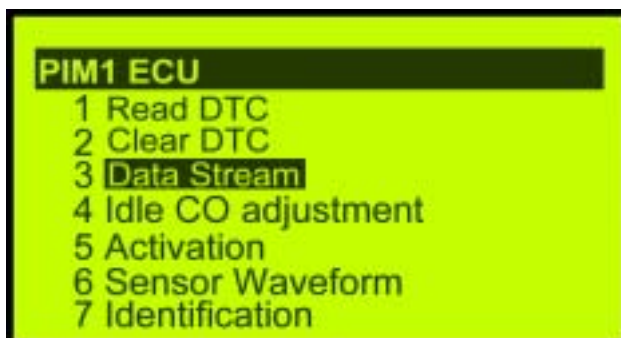
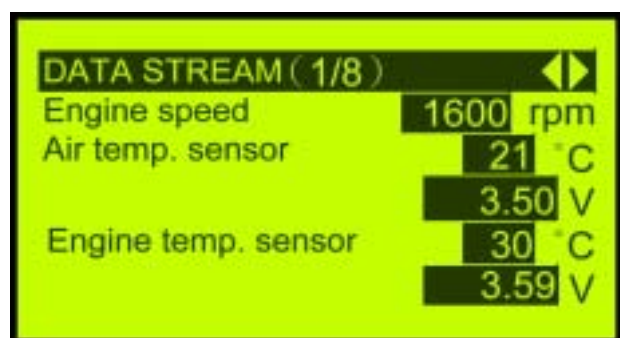

Fig 18
Fig 19
6. With the ▲▼ cursor to select “3. Data analysis” (LCD background changed into black), (as fig 18), press “ENTER” key to enter into EFI data analysis. There are 8 instantly dynamic data values shown on the menu. (1/7~7/7) (as fig 19, 20, 21, 22, 23, 24, 25, 26) Select desired menu with ◀ ▶ cursor.
As the fig 19 (1/8) shown, the menu provides with 3 set dynamic values of engine rpm, intake temperature & sensor’s voltage, and engine temperature & sensor’s voltage.